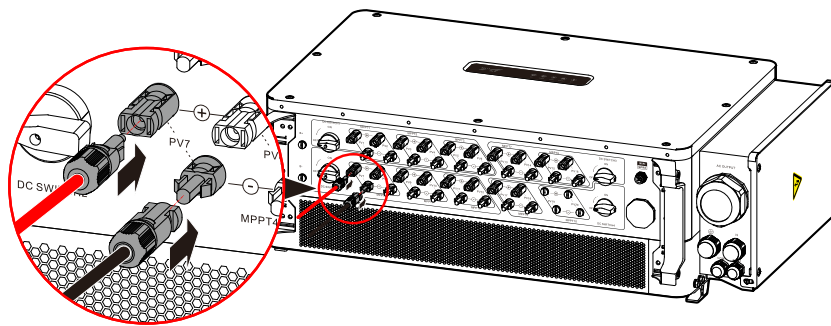

Figure3-43 Connect PV connectors
- Step 3 Insert the positive and negative connectors into the MPPT "+" and "-" terminals at the bottom of the inverter respectively (as shown in Figure3-43). When you hear a click, it means the connection is good.